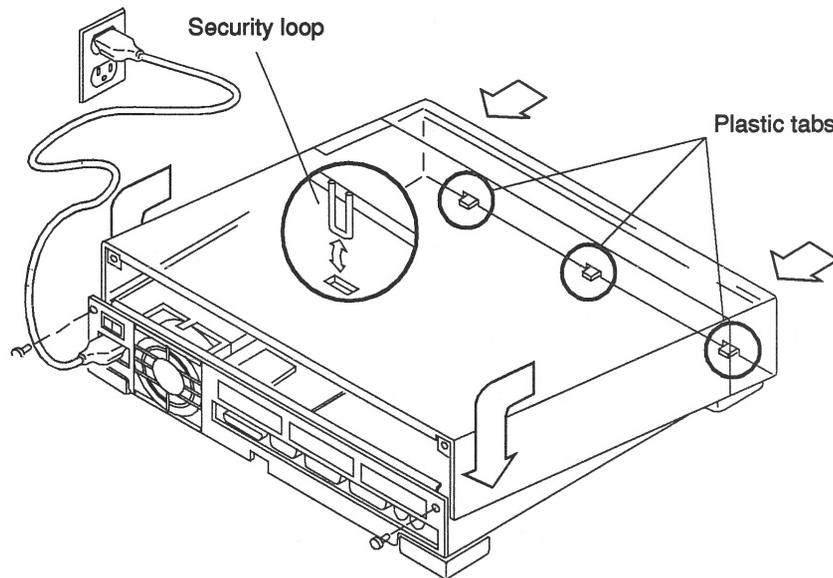

Figure 2-13 Replacing the SPARCstation 2 Cover
- 1. Hold the cover at an angle of approximately 30 degrees in relation to the system unit chassis (front end down, back end up).** Refer to Figure 2-13. Gently guide the plastic tabs on the front of the cover into the tab slots on the front of the chassis while continuing to hold the cover.